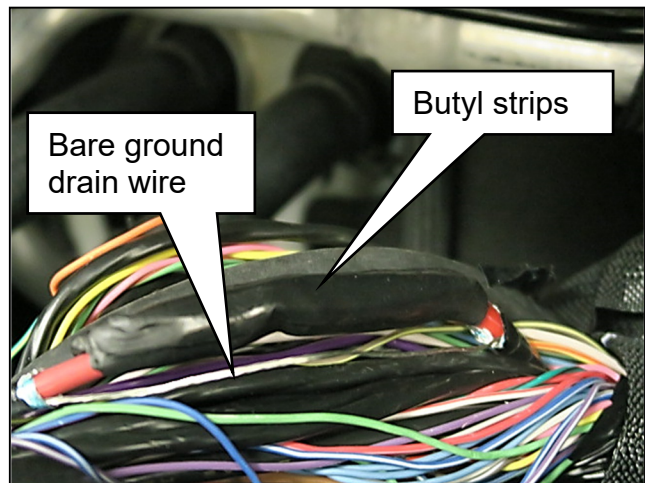

Figure 22
- f. Verify the entire splice is covered, as shown in Figure 22.